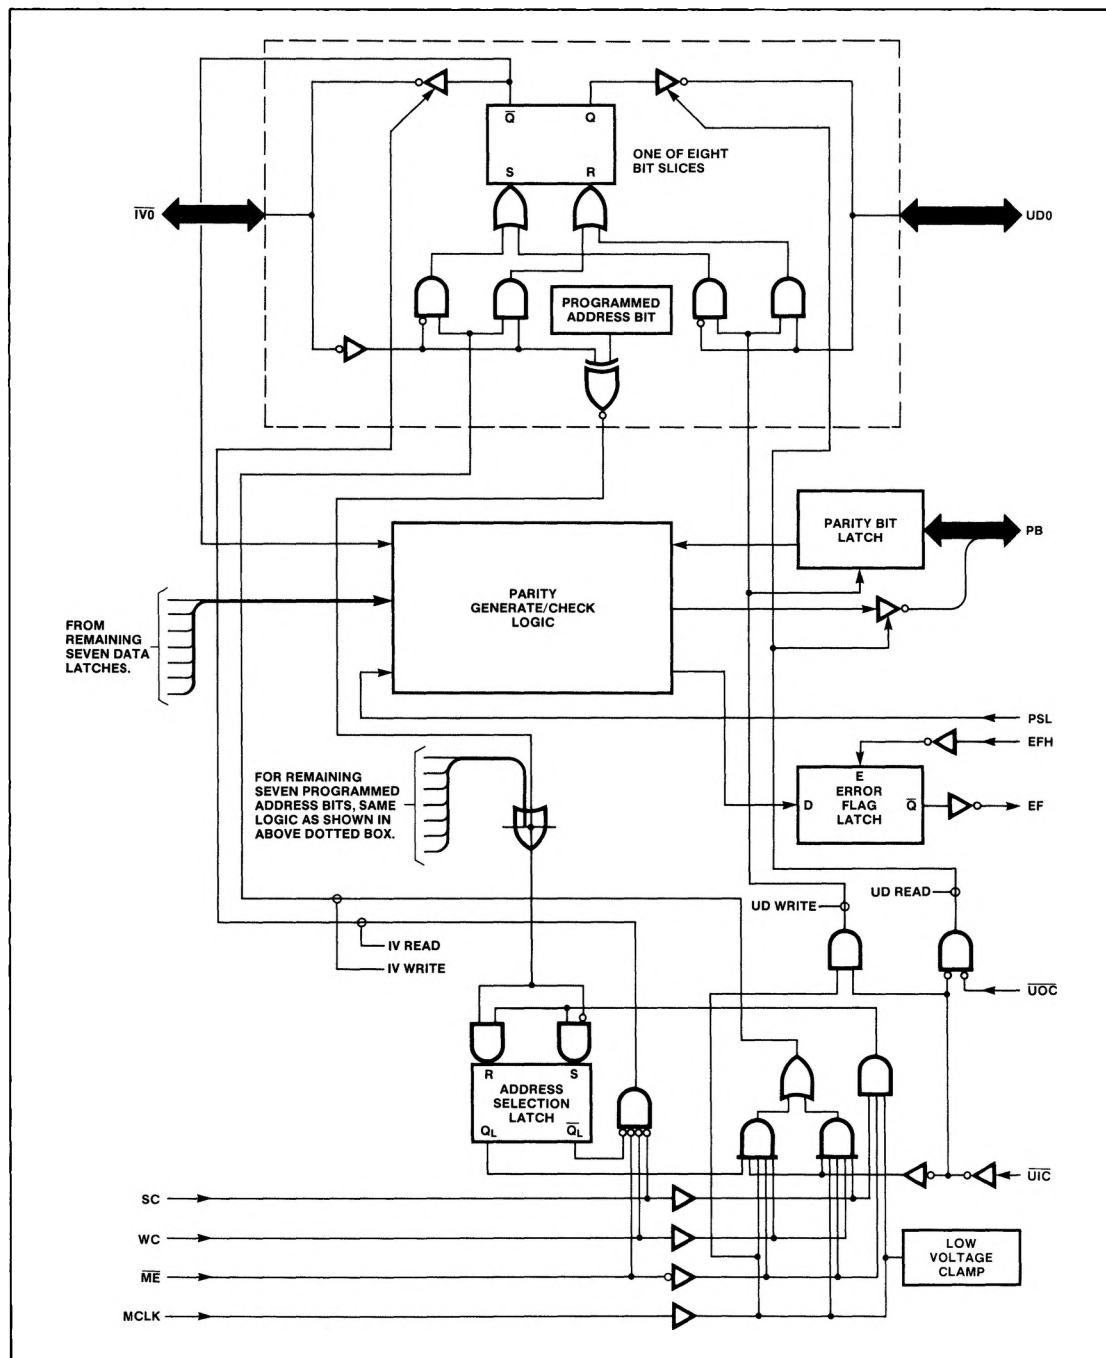

Figure 1. Logic Diagram for 8X374 I/O Port
As shown in the logic diagram of Figure 1, the 8X374 consists of eight identical latches, bits 0 through 7. These latches are accessed through either of two 8-bit busses, one connecting to the MicroController (IV bus) and the other to the user system (UD bus). Separate controls are provided for each bus and both busses operate independently, except when both attempt to input data at the same time. In such situations, the user bus always has priority. The data latches are transparent, in that, while either bus is enabled for input, all transitions in input data are propagated to the other bus, if enabled for output. The data latch in Figure 1 is common to both busses, that is, data traveling from the IV bus to the UD bus, or vice-versa, is latched and applied to the parity generate/check logic. The parity-bit latch is interfaced to the UD bus and latches the parity bit. The user can implement the parity features of the chip by simply selecting odd or even parity via the Parity SeLect (PSL) input pin. When data is output to the UD bus, a parity bit is generated and appended to each byte of data; for incoming data, parity is checked and the result is transmitted to an error-flag latch. The status of the latch (0 = no parity error/1 = parity error) is reflected by the Error Flag (EF) output pin. Operation of the error-flag latch is controlled by the Error Flag Hold (EFH) signal. With EFH low, the operation is transparent; when high the contents of the latch are frozen to avoid false errors while data latches are changing.
The Parity Bit (PB) pin provides both parity-generate and parity-check capabilities according to user data bus controls. With UIC low (active), a parity check is performed on the input data stream; with UOC low (active) and UIC high, the 8X374 generates the parity-bit for the output data stream. The user can select odd or even parity via the Parity SeLect (PSL) input control, 1 = even parity and 0 = odd parity. As data and parity are input to the data latches and the parity-bit latch from the UD bus and PB line (Figure 1), parity errors (if any) are continuously detected by the parity-check logic. Parity error status enters the error flag latch (if enabled) and appears at the EF output pin. The error latch can be strobed by the Error Flag Hold (EFH) control to latch in valid error status; otherwise, the error flag is transparent to the user. (Note: If the system uses less than eight data bits, keeping zeros in unused data latches preserves proper parity operation.)